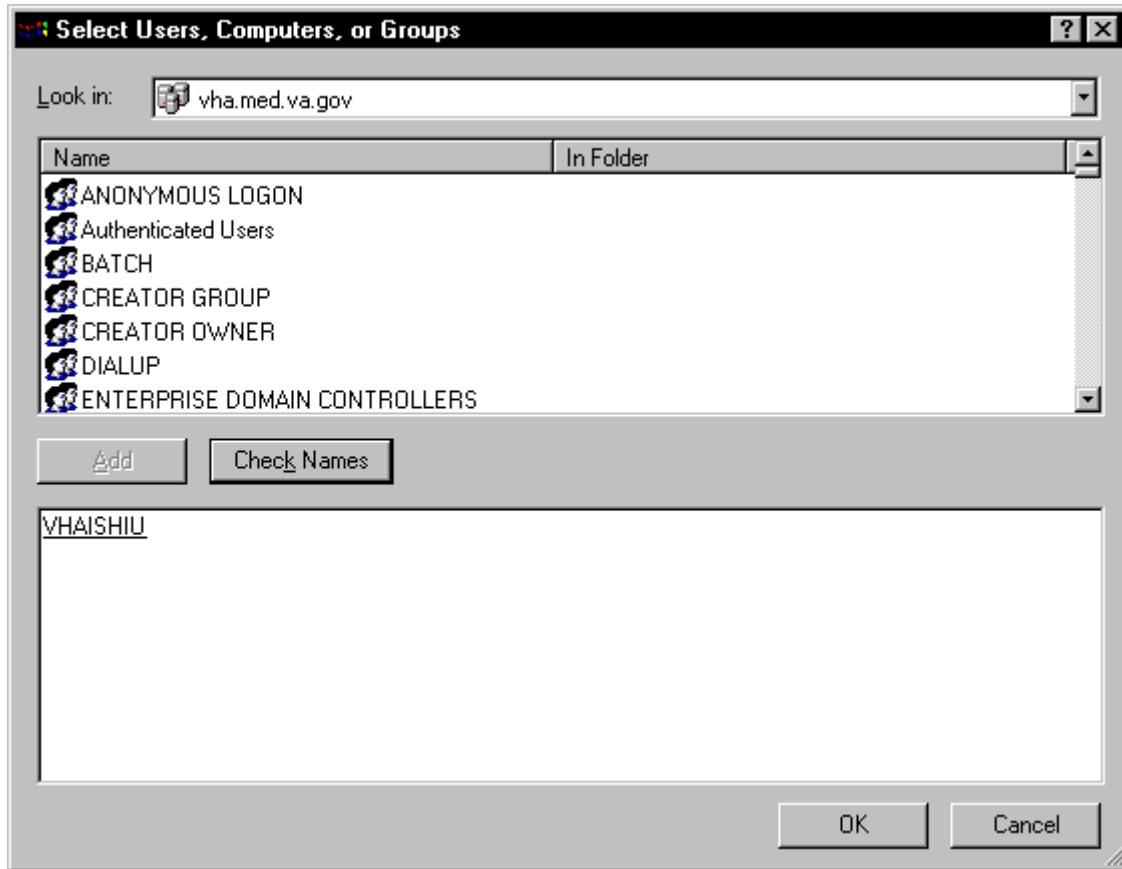

Figure 12-4
7. Enter the name of the VistA Imaging (VHAISHIU) User (IU) into the bottom window and click **Check Names**. A line is displayed under the name if it is valid. Click **OK** to add the user (Figure 12-4). The Select Users, Computers, or Groups window closes and VHAISHIU is displayed in the Permissions dialog box.